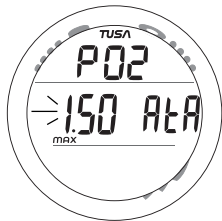

Fig. 42 - SET PO2 ALARM
**Set PO2 Alarm** information includes (Fig. 42):